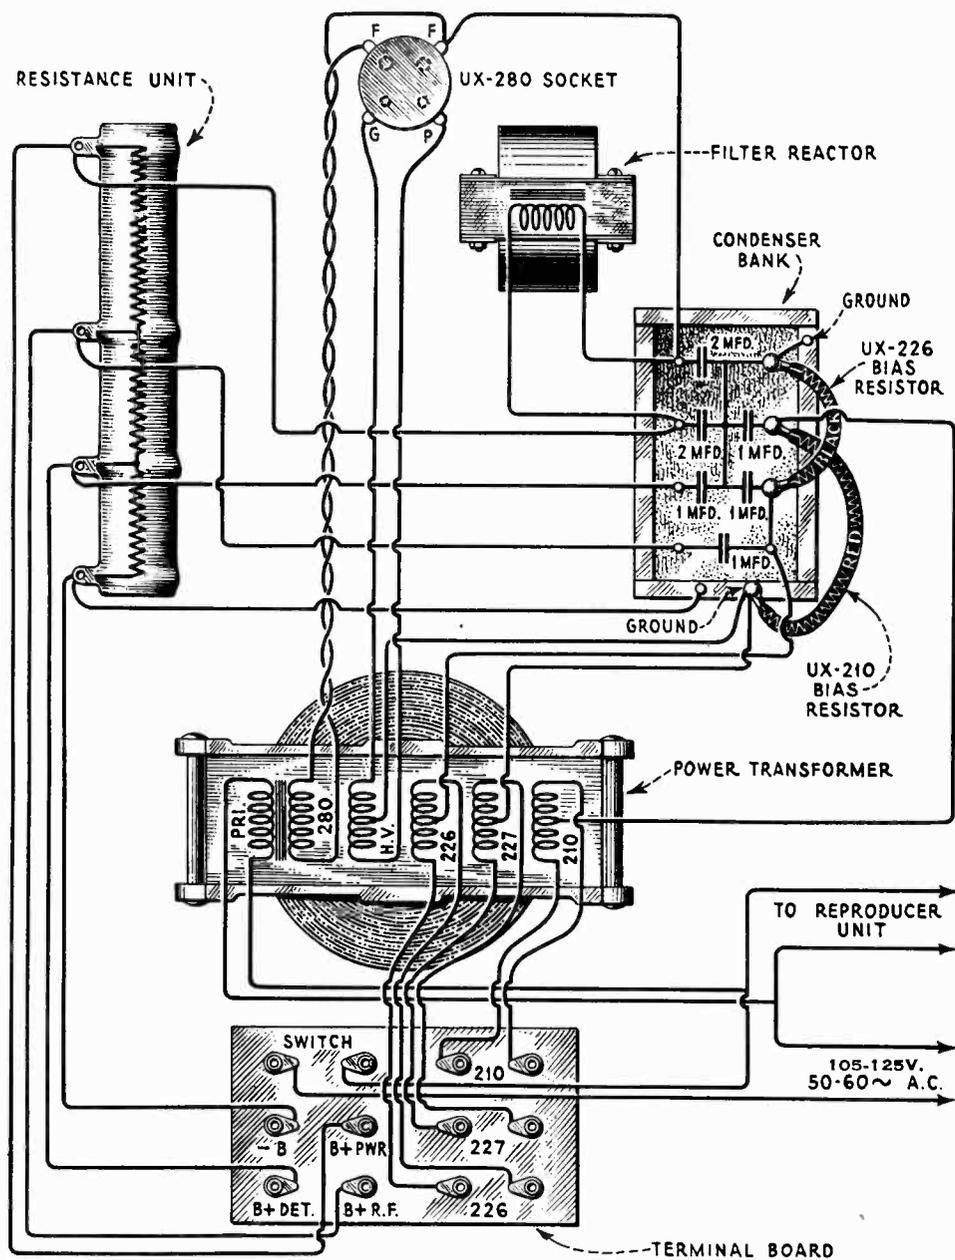

Figure 16—Wiring diagram of the Receptor S. P. U.
The filter and by-pass condensers in Radiola 41 can be checked by noting the voltage readings given in Part II, Section 20. A no-voltage reading at any position will indicate a shorted condenser or an open resistance unit. The resistance unit can be checked by the continuity tests given in Part II, Section 19. After determining that the resistance units are not a fault, the individual condensers should be tested by removing all connections and charging them and then noting their ability to retain the charge. Figures 16 and 17 show the interior connections of the condenser banks. The condensers should be discharged by shorting their terminals with a screwdriver. A defective condenser will not hold its charge. If it is completely short-circuited a flash at the condenser terminals will occur when an attempt is made to charge it.
**S. P. U. CONTINUITY TESTS**—Receptor—Figure 16—See Figure 8 for terminal numbers